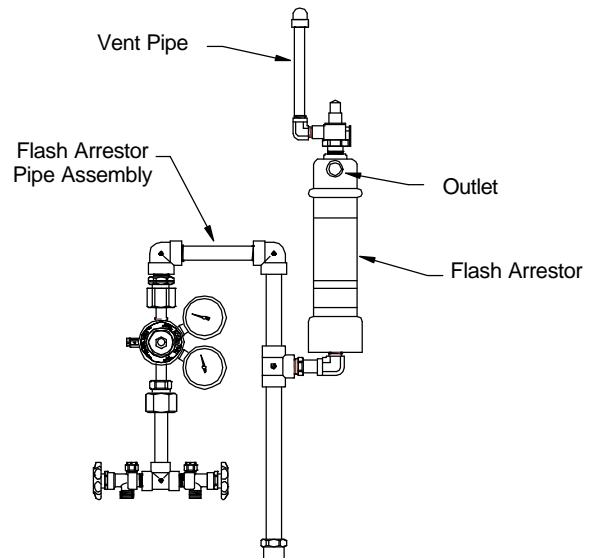

FIGURE 14
2. Secure the flash arrestor pipe assembly to the manifold outlet. (Figure 14)